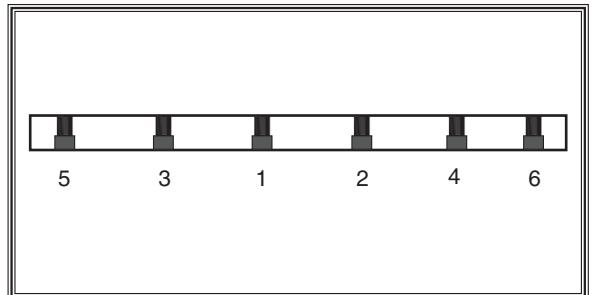

Figure 23. Gib bolt tightening sequence.
8. Rotate the cutterhead to the first knife you started with. Slightly tighten all the gib bolts by following the tightening sequence shown in **Figure 23**. Repeat this step on the remaining knives.